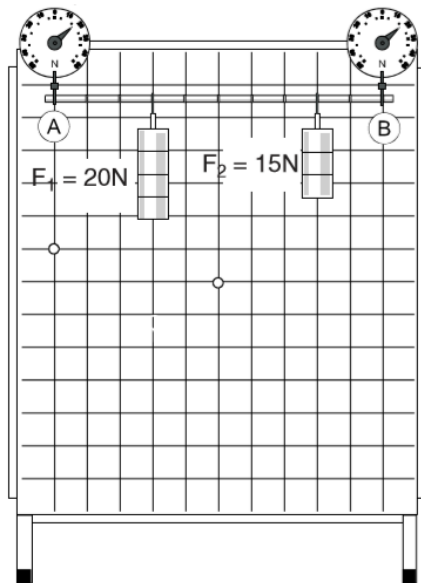

Figure 11: Reaction forces
- 1) Setup the experimental board as shown in Figure 11